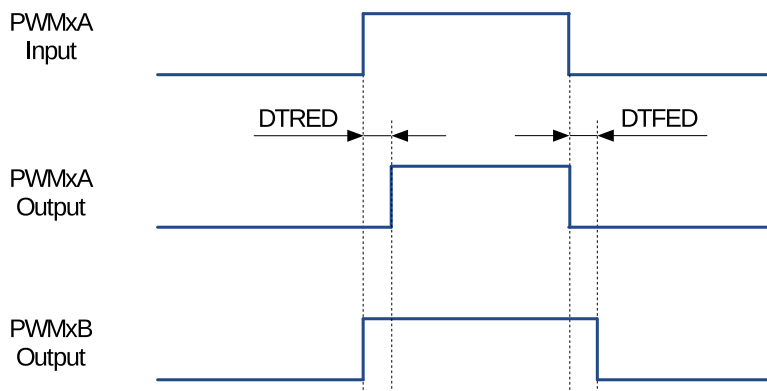

Figure 116: Active High (AH) Dead Time Waveforms
| 4 | Active High (AH), see Figure 116 | 0 | 0 | 0 | 0 |